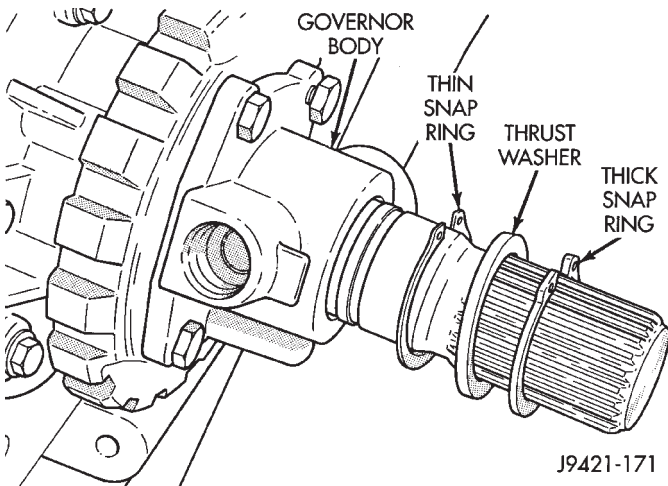
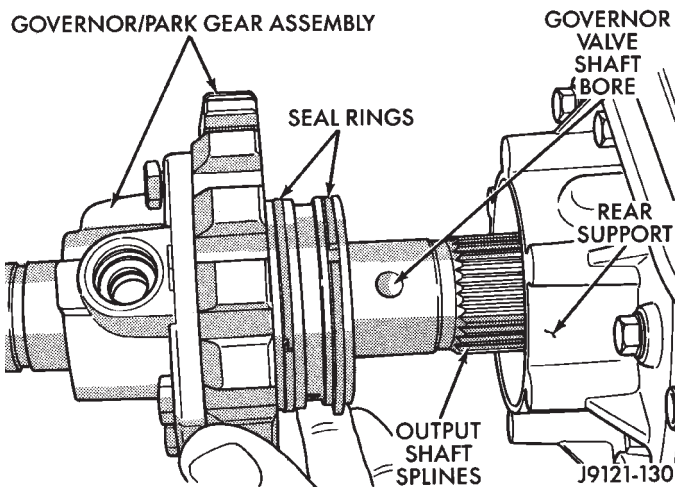

Fig. 36 Snap Rings And Spacer
Fig. 37 Governor Body
(11) Remove snap rings and spacer that retain governor body and park gear assembly on output shaft (Fig. 36).
(12) Remove bolts holding governor body to park gear (Fig. 37).
(13) Separate governor from park gear.
(14) Pull park gear from rear support.
- (3) Slip governor body over output shaft and align port to filter.
- (4) Install bolts to hold governor body to park gear. Tighten bolts to 11 N·m (95 in. lbs.) torque (Fig. 37).
- (5) Install governor body-park gear snap rings and washer on output shaft as follows:
- (a) Install thin snap ring first. Then install thrust washer second, and thick snap ring last (Fig. 36).